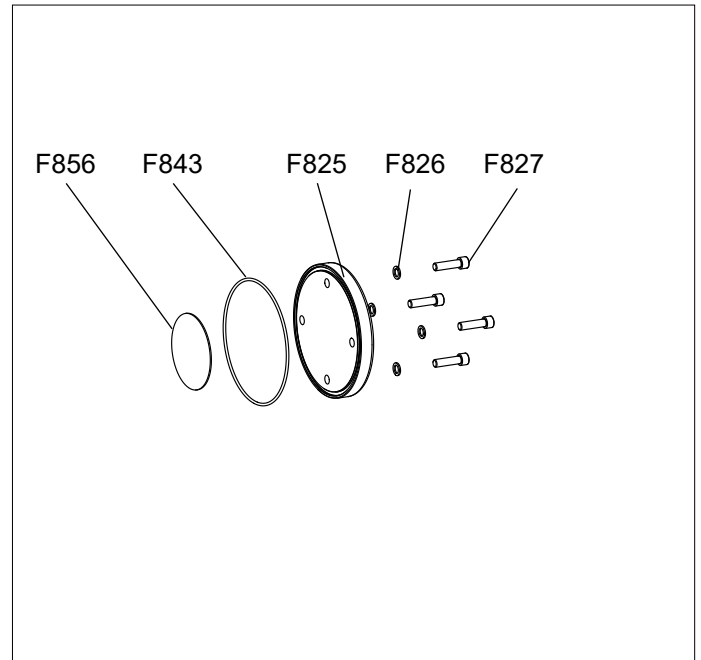

Fig. 2C
2. Remove the four End Plate Bolts (F827), End Plate Washers (F826), and End Plate (F825) using an allen wrench. (See Fig. 2C)